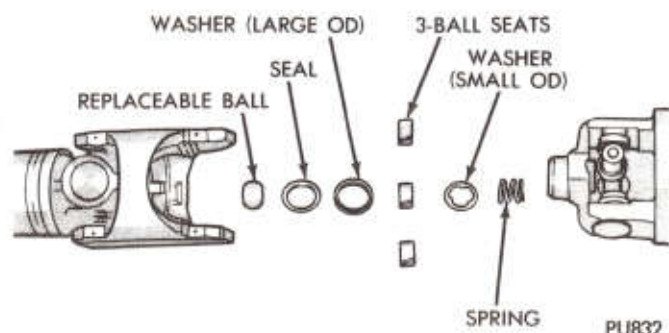

Fig. 17—Ball and Seat
(5) Disengage the trunnions of the cross, still attached to the flange yoke, from the coupling yoke. Pull the flange yoke and cross from the centering ball on the ball support tube yoke. The ball socket is part of the flange yoke.
(6) Pry seal from ball cavity; remove washers, spring, and three shoes as shown in Figure 17.